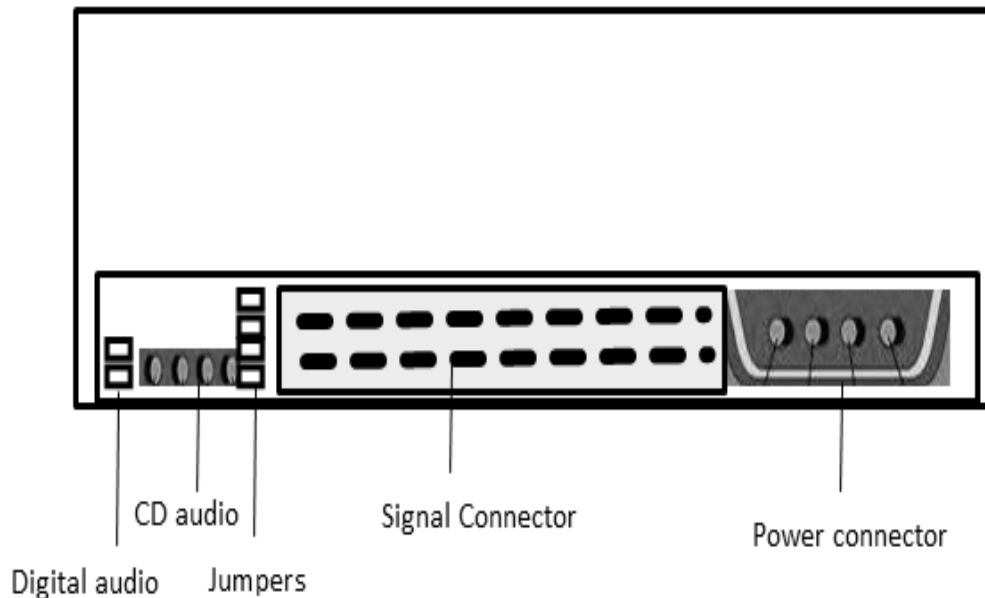

Figure 8.4: Rear view of DVD drive
- **CD data:** CD's are recorded as single continuous spiral track running from the spindle area. Fig 8.4 shows an example of spiral pattern as it is recorded on the CD. The inside dots lines shows the relationship between the pits and lands. CD's use a highly focused laser beam and laser detector to sense a presence or absence of pits. When laser light strikes the land it reflects light towards the detector which produces a very strong output signal. When the laser light strikes a pit the light is slightly out of focus.
- **Data storage:** A CD-ROM contains twenty four synchronization bits, fourteen control bits, twenty four data symbols and eight complete error correction symbol (EC). You must always keep in mind that three merged additional bit separates each symbol by bringing the total number of bit in the frame to 588. Therefore 588 bit on the CD-ROM represent 24 bytes of data which can be expressed as a number of pit and land. There are ninety eight frames in a data block. Therefore each block carries 98x24 which is equal to 2048 bytes. The data delivered by
The rear view of the DVD drive looks similar to the one given in figure 8.4.